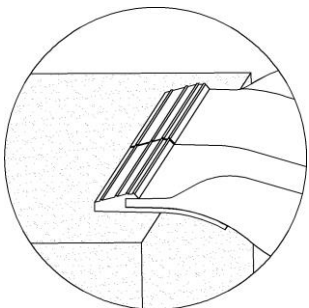

FIG. 1
- ▲ Ensure top lip transition (labeled TOP) is secure before using ramp. To prevent ramp from becoming dislodged during use, ensure that the top lip transition fully overlaps and is in full contact with the resting surface (FIG. 1).
4. Ensure top lip transition is secure before using ramp (FIG. 1).